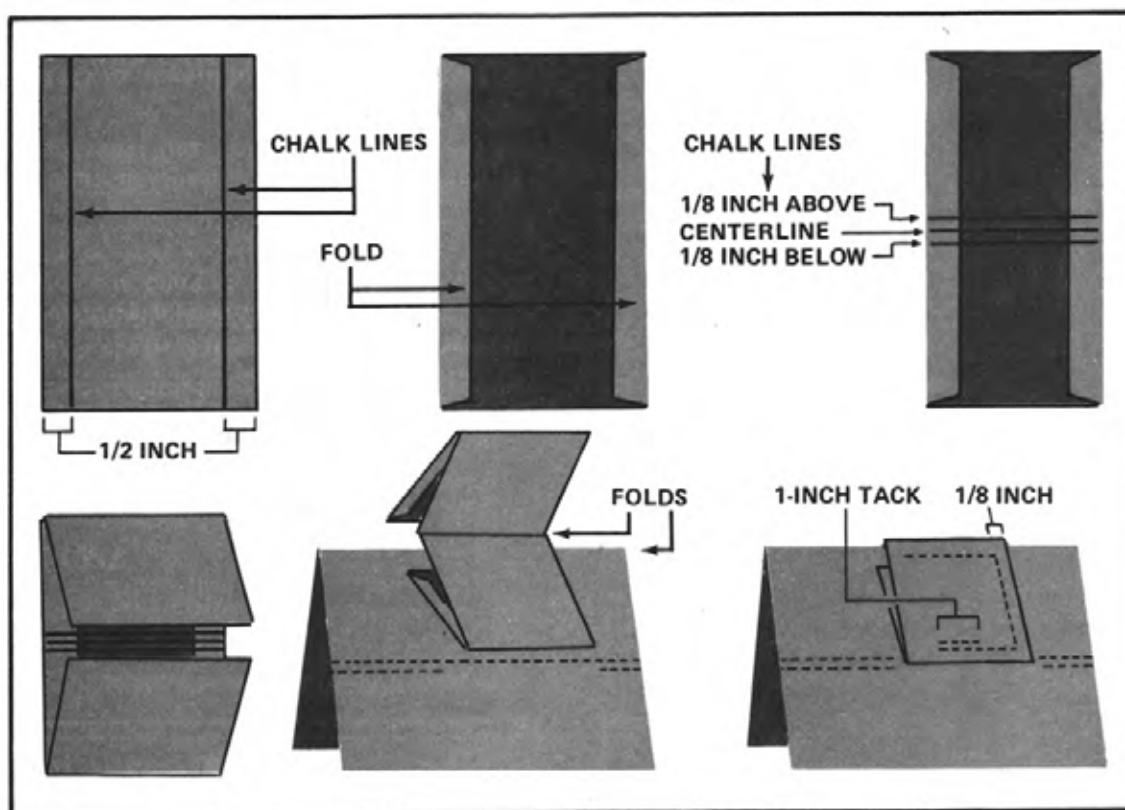

Figure 9-11. Eave-edge patch
e. Eave-Edge Patch. An eave-edge patch (Figure 9-11) is used to repair damage on the eave of a tent. It is sewn to both sides of the eave. To make an eave-edge patch--
- (1) Measure the width of the eave.
- (2) Measure the length of the damaged area.
- (3) Cut a patch from matching canvas. Make it four times as wide as the eave. Make it long enough to extend 2 1/2 inches beyond the damage on the left and right sides.
- (4) Turn the patch faceup. Draw chalk lines 1/2 inch from the left and right sides.
- (5) Fold under the left and right raw edges along the chalk lines. Crease the folded edges in place.